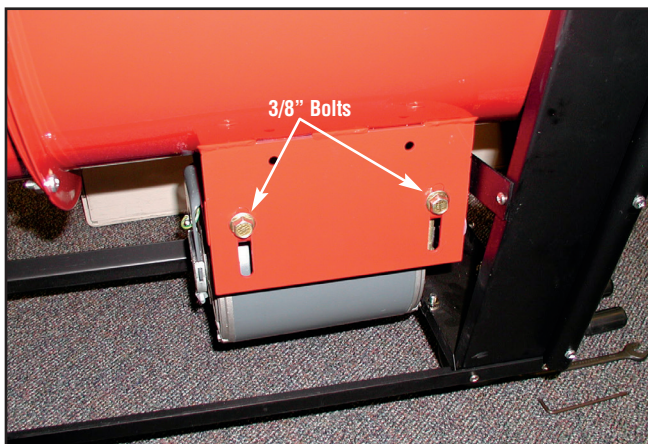

Figure 1
2. Remove the lower belt cover by removing the (5) sheet metal screws.
3. Remove the rear grille by removing the (4) 1/4" bolts and nuts.
4. Remove the belt cover inside the blower by removing the (4) sheet metal screws.
5. Loosen the (4) bolts, (2) on each side. See Fig. 1.
- Tighten the 3/8" bolts, see Fig. 1